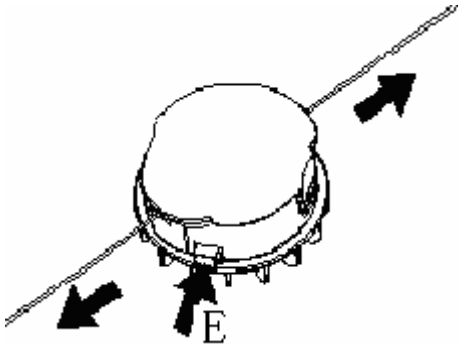

Fig. 13
2. To lengthen, press and release manual line feed button (E) while gently pulling two lines until the lines reach the line cutting blade. (Fig. 13).
3. If line fails to feed when unit is stopped and restarted, repeat #2 (Fig. 13).